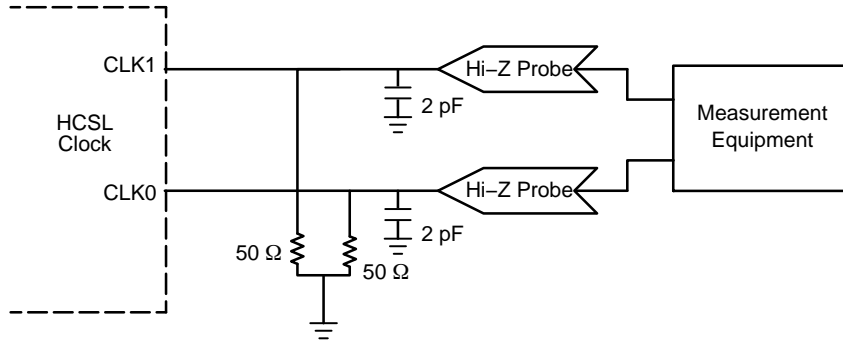

Figure 8. HCSL Parameter Measurement
6. Measurement taken with outputs terminated with $R_S = 0 \ \Omega$, $R_L = 50 \ \Omega$, with test load capacitance of 2 pF. See Figure 8. Guaranteed by characterization.